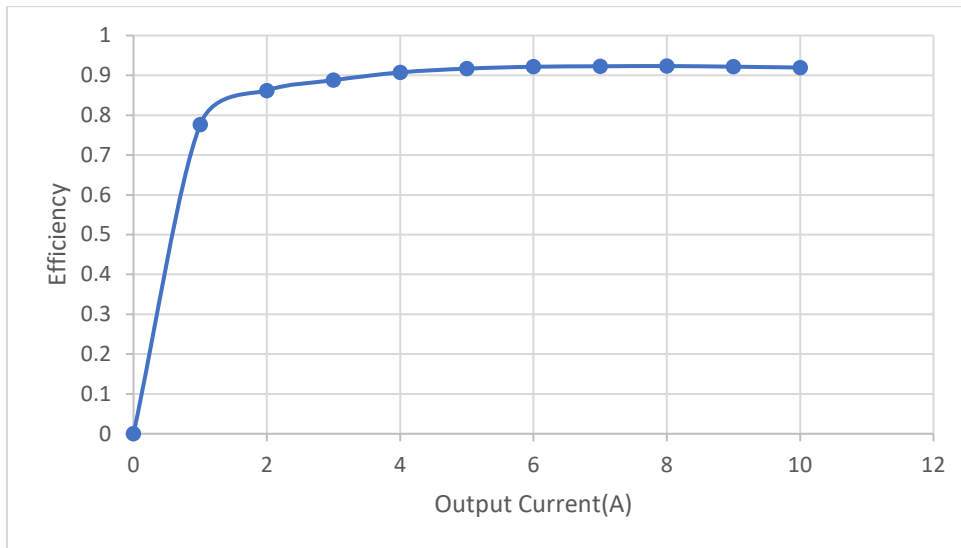

Figure 3. Efficiency versus output current.
- 4) Efficiency (**Figure 3**)
The efficiency is measured for a 12V input and shown in Figure 3. The peak efficiency is about 92% at 7A load.